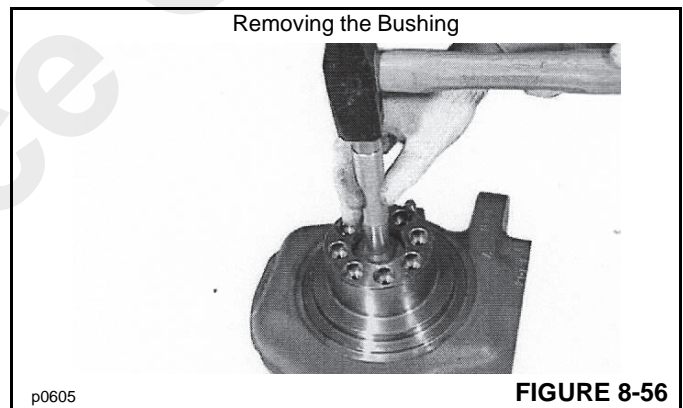

FIGURE 8-56
19. Turn the swivel housing over and using the SPECIAL TOOL (Figure 8-19) and hammer remove the bushing (Figure 8-56).